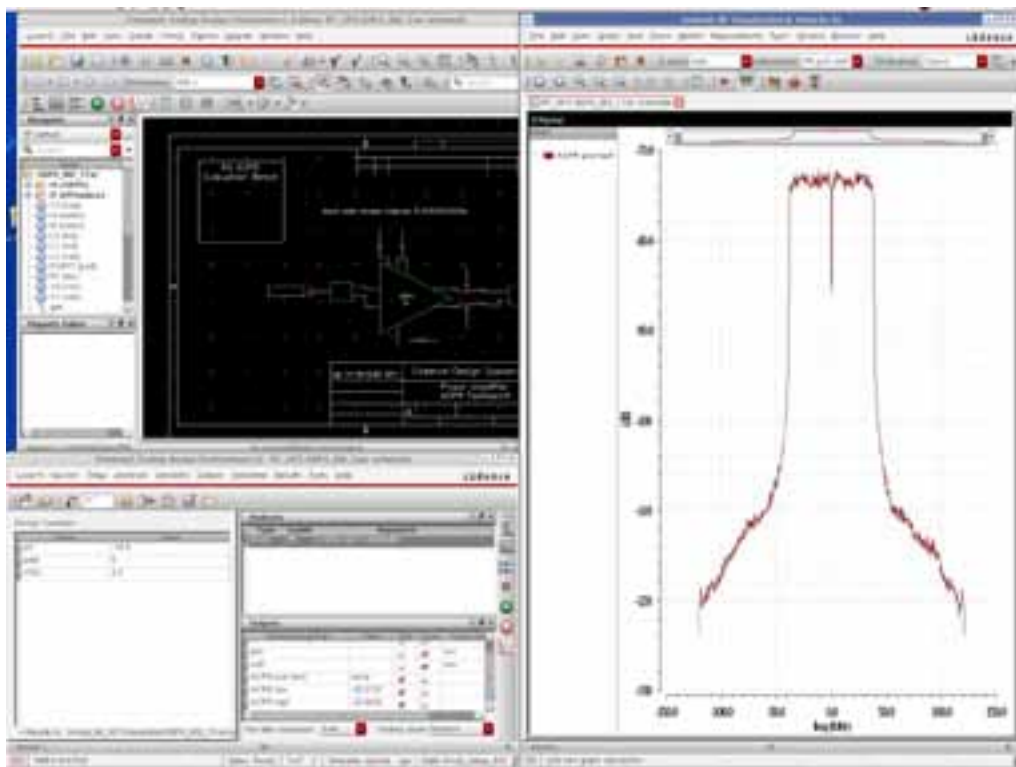

Figure 1: This screenshot is from Cadence's Virtuoso Accelerated Parallel Simulator RF for accuracy and productivity.
- **Virtuoso Accelerated Parallel Simulator RF:** high-performance, post-layout, and multicore RF simulation (see Figure 1)